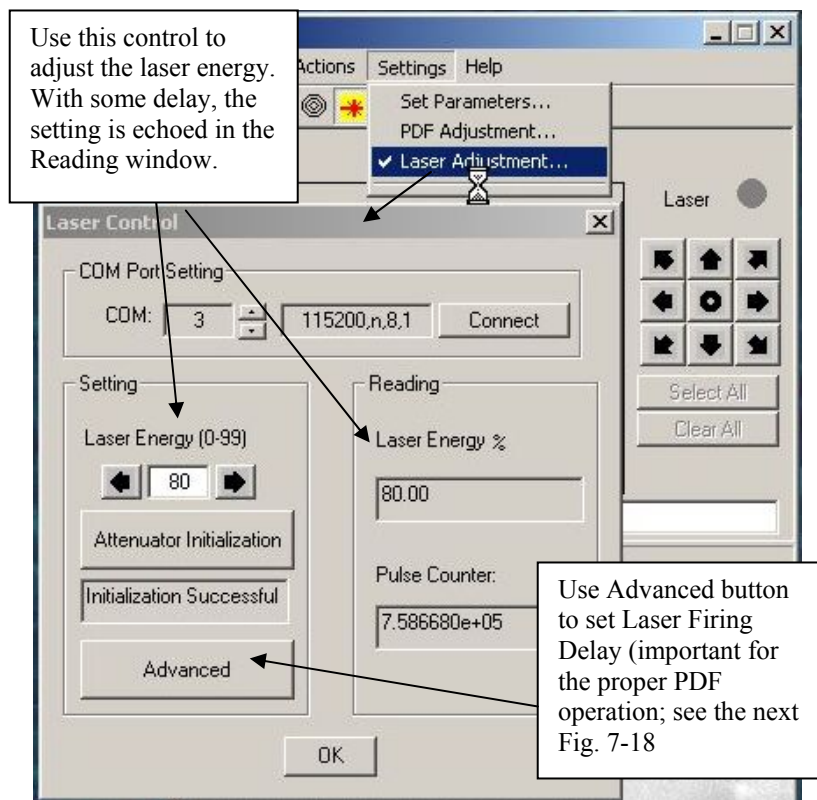

Fig. 7-17. Laser Adjustment dialog enables to choose an appropriate laser attenuation.
To adjust laser attenuation, use the dialog box shown in Fig. 7-17 (accessed through Settings -> Laser Adjustment menu item). There are more controls included in Laser Control dialog (Fig. 7-17) like COM Port Settings etc. They are included for technological purposes; the user has no needs to use them.
Important. During the first run of Target software, the proper Laser Firing Delay value should be set through Advanced button (see Figs 7-17 and 7-18). The delay is important for proper PDF operation. Its value is unique for every Control Unit and is specified on a special sticker placed at the factory at the bottom of Control Unit housing. If no sticker found the delay is zero (0). After you have finished hardware/software installation, sample preparation, and successfully run the Target software, everything is ready to operate the Exactive instrument in AP/MALDI mode.
Then increase the laser energy in Target software (Figure 7-17) so that roughly the same laser fluence (energy/area) is maintained. The purpose behind this exercise is to generate more analyte ions per laser shot. With the *PDF* Technology, ions generated far away from the MS entrance can even be entrained into the MS.